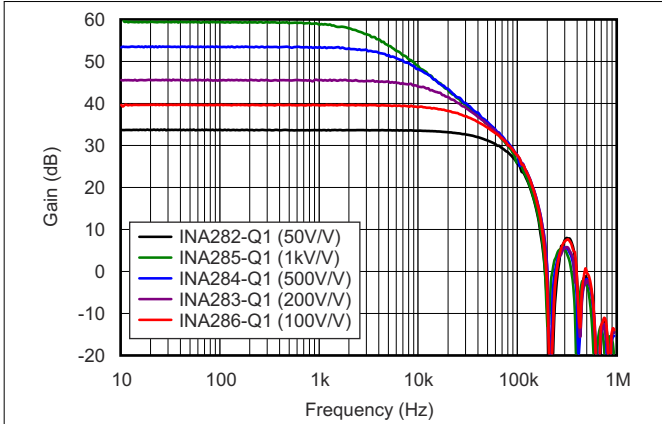

图 6-1. Gain vs Frequency
- (7) See typical characteristic graph 图 6-1 and 节 7.3.2 in the Applications Information.